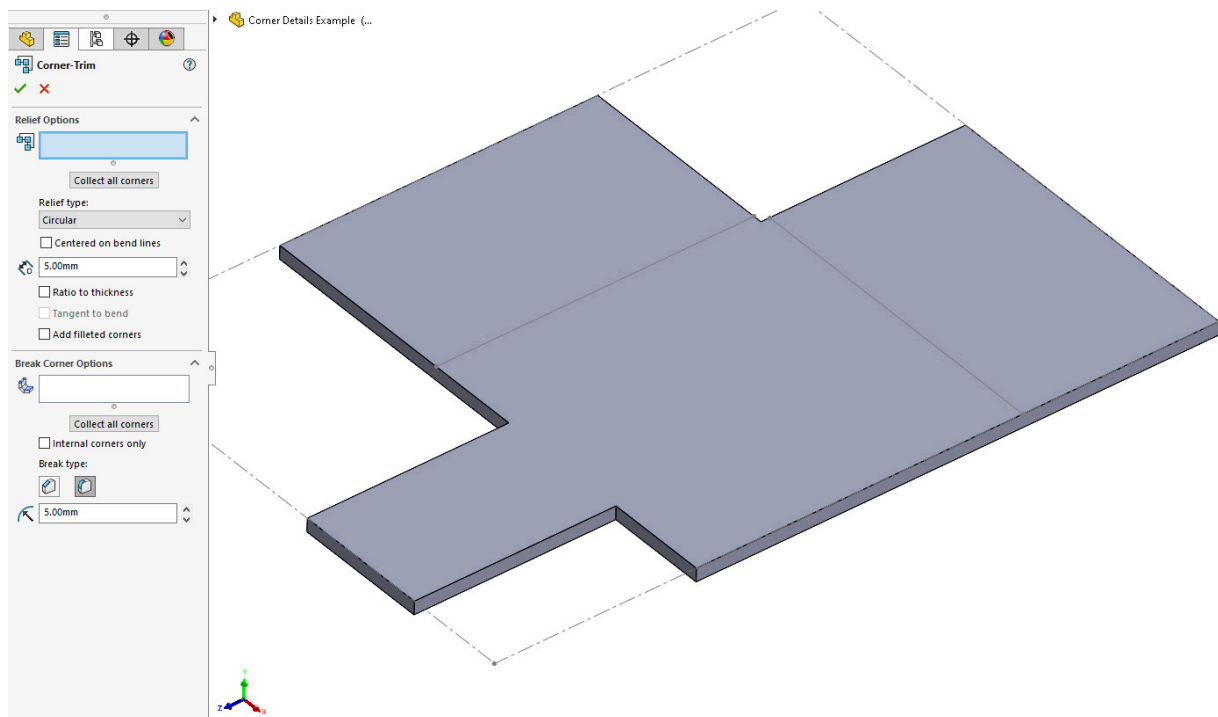

Figure 9.13: Using the Corner-Trim tool with a flattened part
3. Now expand the drop-down menu for the **Corner** tools and you'll see that only one option is available, **Corner-Trim**. This is very similar to the previous tool that we used in the last section but specialized for flattened models. Select the **Corner-Trim** tool (Figure 9.13):